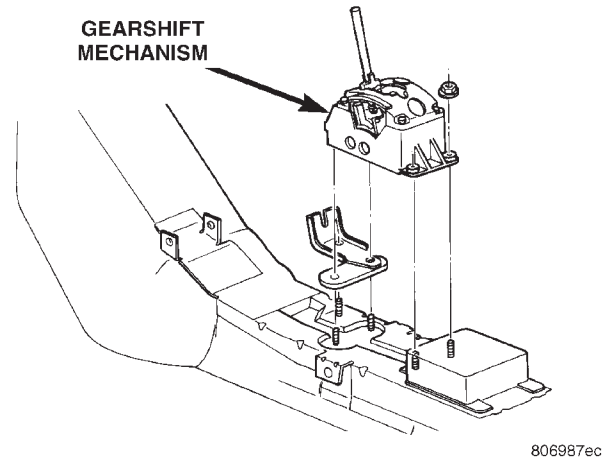

Fig. 10 Gearshift Mechanism
- (1) Disconnect battery and isolate cable.
- (2) Remove the gearshift knob set screw and knob.
- (3) Remove console assembly. Refer to Group 23, Body.
- (4) Using a flat blade pry tool, remove the shifter cable end from the gearshift pin.
- (5) Pry the cable retaining clip up and off of the gearshift mechanism. Remove the gearshift cable from the gearshift mechanism.
- (6) Pry up the adjuster lock on the shifter/ignition interlock cable. Unsnap the shifter/ignition interlock cable end fitting from the groove in the gearshift mechanism. Remove the cable core end from the plastic cam of the shifter mechanism.
- (7) Remove the nuts at the base of the gearshift mechanism (Fig. 10). Remove the shifter mechanism.